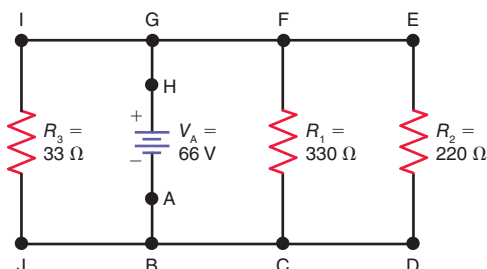

Figure 6-20
- 6.14 In Fig. 6-20, solve for I_1 , I_2 , I_3 , and I_T .
- 6.15 In Fig. 6-20, how much is the current in the wire between points
- 6.21 In Fig. 6-20, solve for R_{EQ} .
6.33 In Fig. 6-20, solve for P_1 , P_2 , P_3 , and P_T .